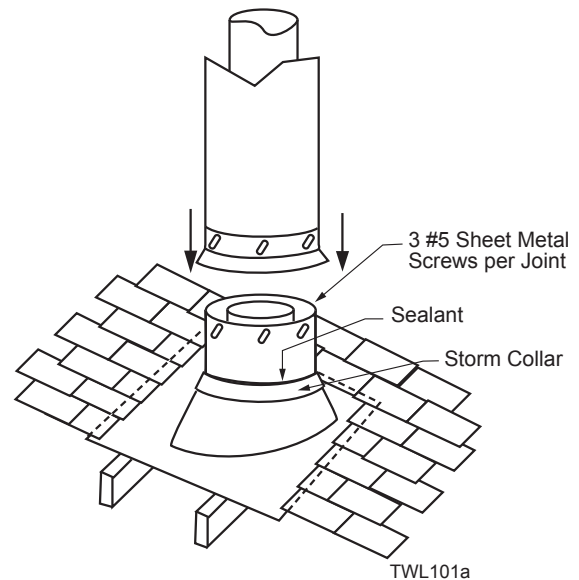

Figure 40 - Roof Flashing
7. Install roof support (*Figure 38*) and roof flashing making sure upper flange is below the shingles. *Figure 40*
8. Install appropriate pipe sections until the venting is above the flashing. *Figure 40*
10. Add additional vent lengths for proper height. *Figure 40*